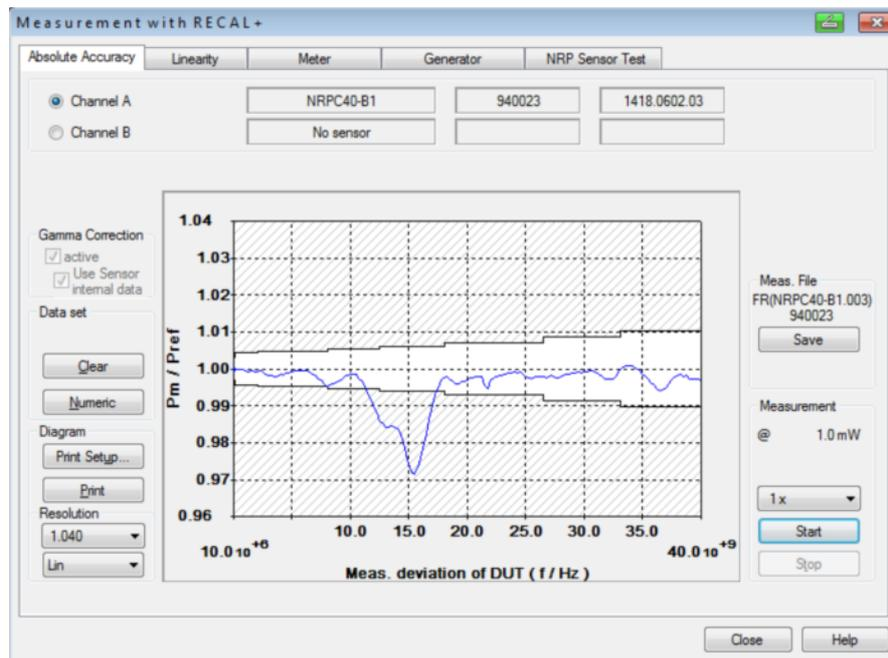

Fig. 4-1 Verification result for an R&S® NRPC40 power standard following damage to the RF connectors
Perform one or more measurement cycles (depending on requirement); otherwise proceed as described under **Checking the Absolute Accuracy**. The averaged trace must lie within the tolerance band shown in the graphical display. The tolerance limits are significantly tighter compared to a normal thermal sensor. If the trace rises or falls uniformly over all of the frequency range, this indicates a change in the sensitivity of the power standard or the verification sensor. An oscillating frequency response as seen in Fig. 4-1 indicates that the matching conditions on the RF connection have changed. In this case, a visual inspection is necessary and the connectors should be cleaned. If the ripple does not disappear despite cleaning the connectors of the verification sensor and the power standard, the RF connector for the power standard can be exchanged with the supplied replacement adapter (21). For a description of the steps required to do this, see the appendix under **Exchanging the RF Connector at the Test Port of the Power Standard**.
The objective of the measurements is to check the characteristics of the power standard, reference attenuator and R&S®NRV-Z51 verification sensor for DC voltages and to use correction factors to eliminate the effects of drift due to aging or ambient conditions. The set of correction data is stored in an editable calibration program file so that it can be cleared at any time as required and the incoming status restored. The correction data can be activated only in conjunction with **R&S®Recal+**. The menu-driven measurements are performed on a measurement setup as shown in Fig. 4-1. The individual measurement setups are listed in Table 4-1.
- Allow the test setup shown in Fig. 4-1 to warm up for at least an hour. Do not forget to connect the ⑰ verification sensor to the R&S®NRVD